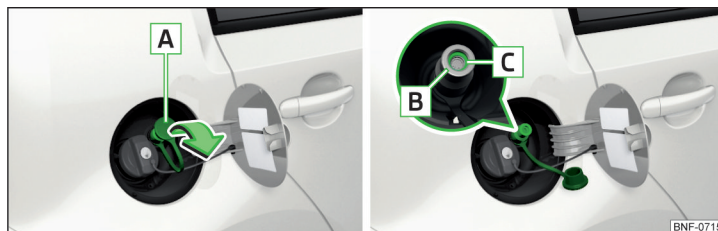

Fig. 136 Natural gas filler tubes
- › Remove cap **[A]** » Fig. 136 in the direction of the arrow and insert connector for the refuelling system into filler neck **[B]**.
- › Check that sealing ring **[C]** » Fig. 136 has remained inserted in filler neck **[B]**. If the sealing ring has slipped on the connector, reinsert it into the filler neck.